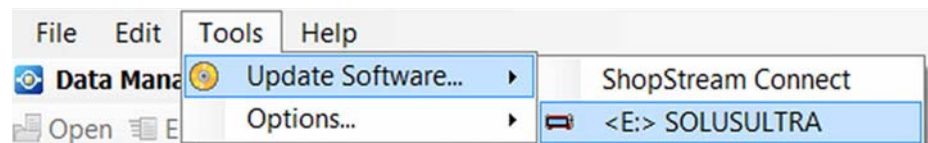

Figure 8-5
1. Select **Tools > Update Software > (diagnostic tool type - e.g. MODIS, SOLUS PRO, Vantage Ultra etc.)** from the Menu bar (Figure 8-5).